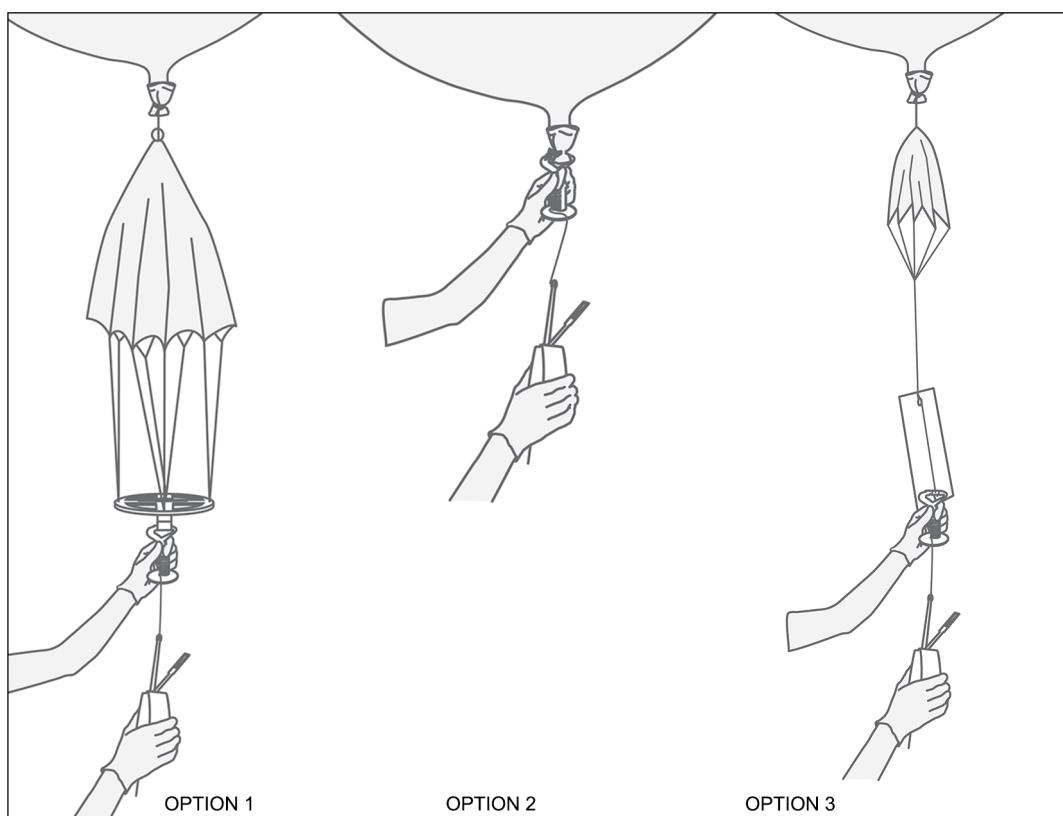

Figure 5 Radiosonde RS41 Optional Accessories
The recommended parachute with big balloons (> 300 g) is Totex type 5710-5 (Vaisala code 15045). See option 1 in Figure 5 \(page 23\).
The recommended parachute with small balloons (< 200 g) is the Totex type 280V-17 (Vaisala code 249041). See option 1 in Figure 5 \(page 23\).
- ▶ 1. If you are using a parachute that has no firm objects to prevent the unwinder from twisting, use a hanger board. The hanger board provides more stability during the sounding. See option 3 in Figure 5 \(page 23\).
When you perform a sounding with no optional accessories, the radiosonde unwinder is attached directly to the balloon. See option 2 in Figure 5 \(page 23\).